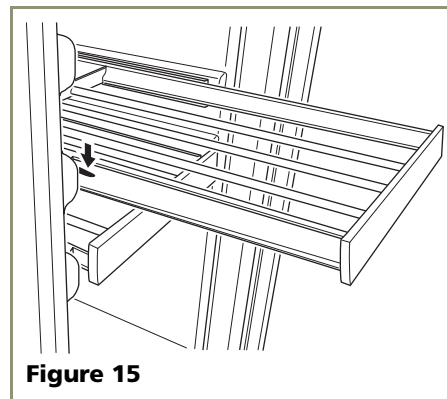

Figure 15
3. Press the left rack release lever (**Figure 15**) down, and at the same time, lift the corresponding right rack release lever up, and pull the rack out until it is free of the tracks and the cabinet.